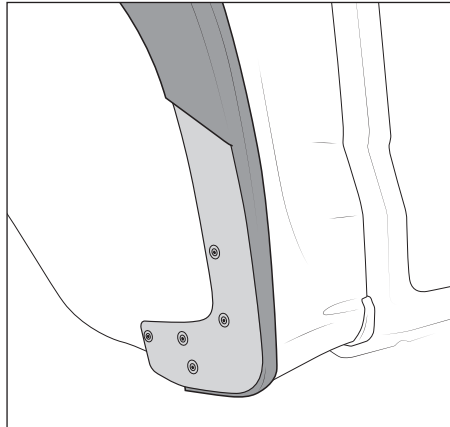

Figure 18
3. Install flare onto the vehicle, making sure that the plastic closeout panel is tucked behind the flare (fig. 18).